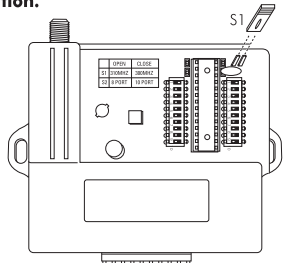

Fig. 2
Step 2. You can now see the jumper and dip switch. See Fig. 2 **Note: jumper must be in place for operation.**
Step 5. Set the dip switches to the desired settings to match your transmitters SW1 controls Relay 1 and SW2 controls Relay 2. Refer to Fig. 2.